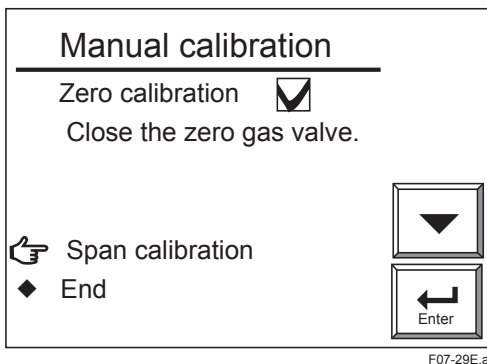

Figure 7.29 Zero Calibration Complete Display
- (9) After the measured value has stabilized, press the [Enter] key to display the "Zero calibration complete" display shown in Figure 7.29. At this point, the measured value is corrected to equal the zero gas concentration setting. Close the zero gas flow valve. The valve lock nut should be tightened completely so that the zero gas does not leak.
- (10) Select "End" in the display as shown in Figure 7.29. An oxygen concentration trend graph (with the oxygen concentration being measured) appears and HOLD TIME then flashes. This time is referred to as the output-stabilization time. If the HOLD TIME has been set with the output hold setting, the analog output remains held (refer to Section 8.2, Output Hold Setting, later in this manual). Manual calibration is completed when the preset hold (output stabilization) time elapses. This hold (output stabilization) time is set to 10 minutes at the factory before shipment. If you press the [Enter] or [Reject] key within the hold (output stabilization) time, manual calibration is then completed.